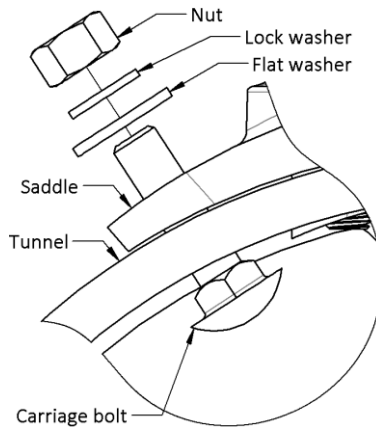

Figure 12 – Tube mounting hardware orientation.
1. Replace the tube onto the saddle and loosely refasten in six places. The heads of the carriage should be on the inside of the tunnel (see Figure 12 below).